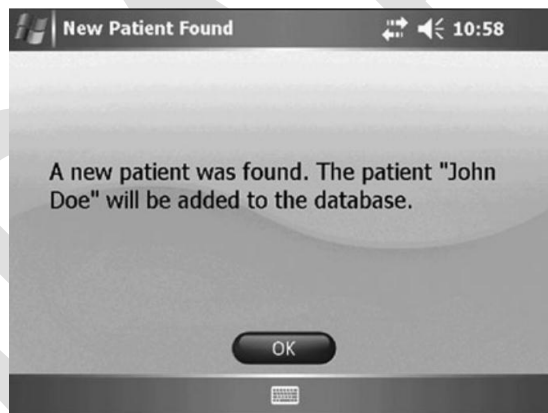

Figure 7-3. Adding a patient with an assigned system.
2. The StimRouter application will automatically prompt that a new patient was found and add the patient to the clinician programmer database. See Figure 7-3.